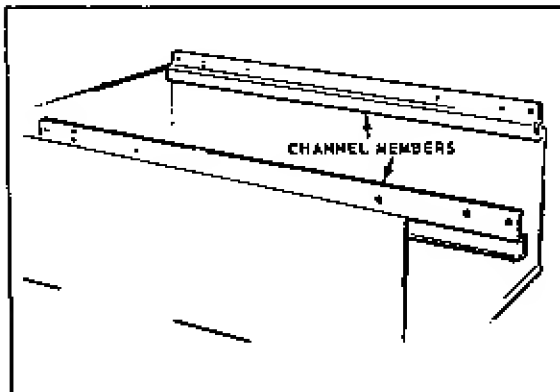
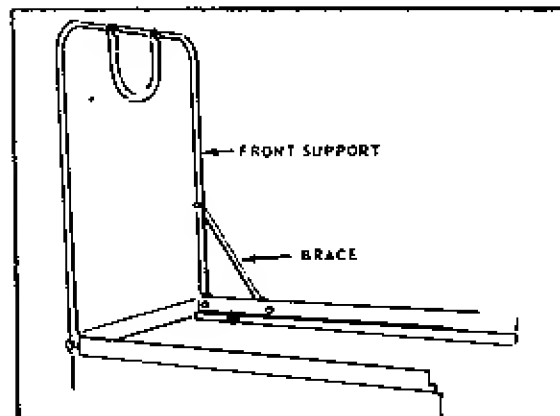

FIGURE 1
FIGURE 2
A. The enclosure should be constructed on the cart body, starting with the lower channel members shown in Figure 1. The front support assembly is then added as shown in Figure 2. (Refer to the exploded-view and parts list on Pages 8 & 9 for descriptions of the hardware used in this construction).